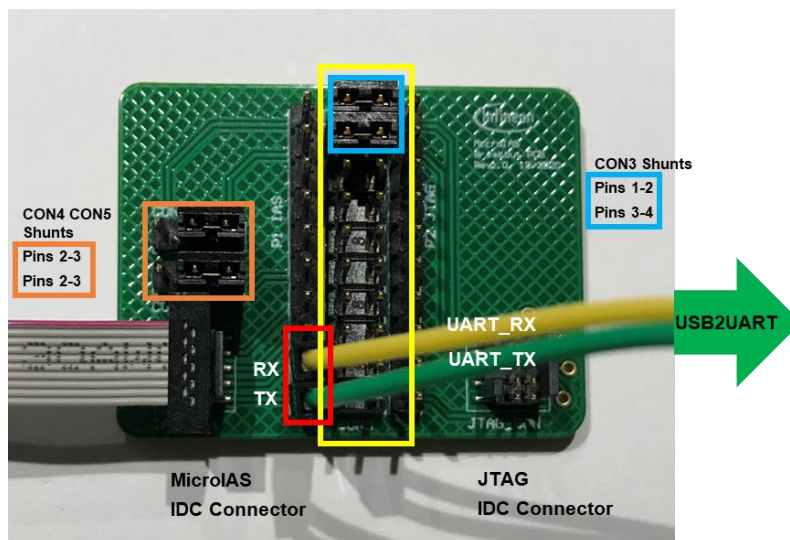

Figure 6c: Breakout Board Setup for UART Communications
- Figure 6c depicts how to setup/modify the shunts and connections for proper UART communications.